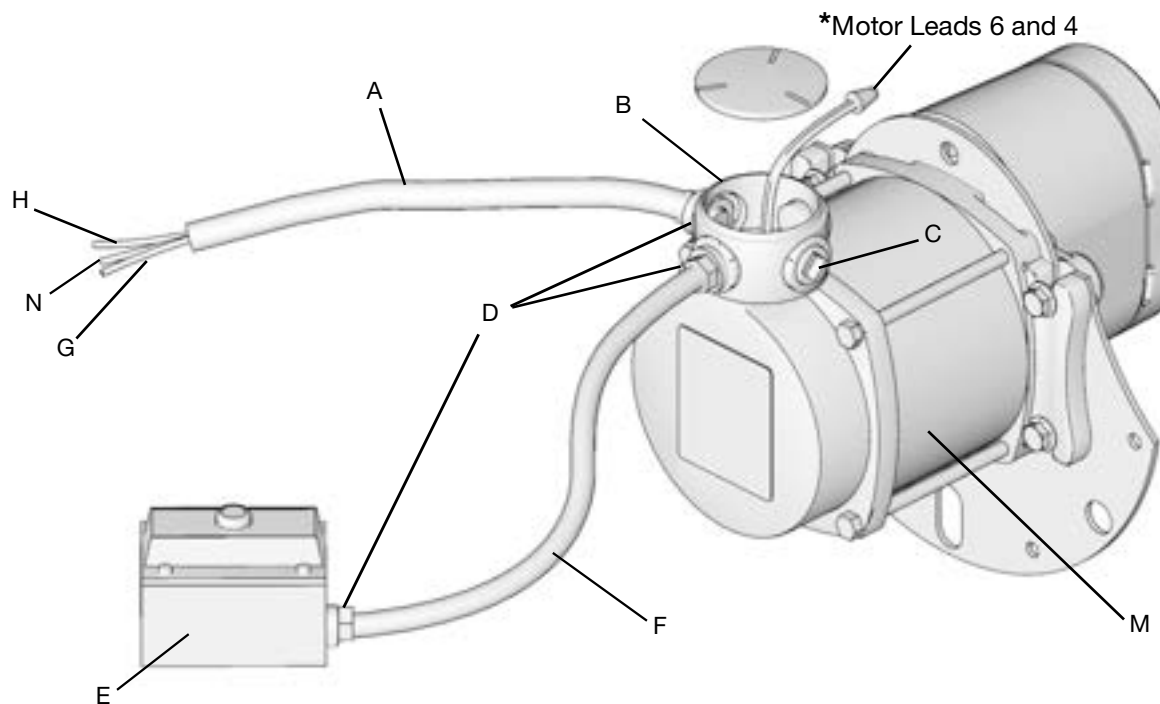
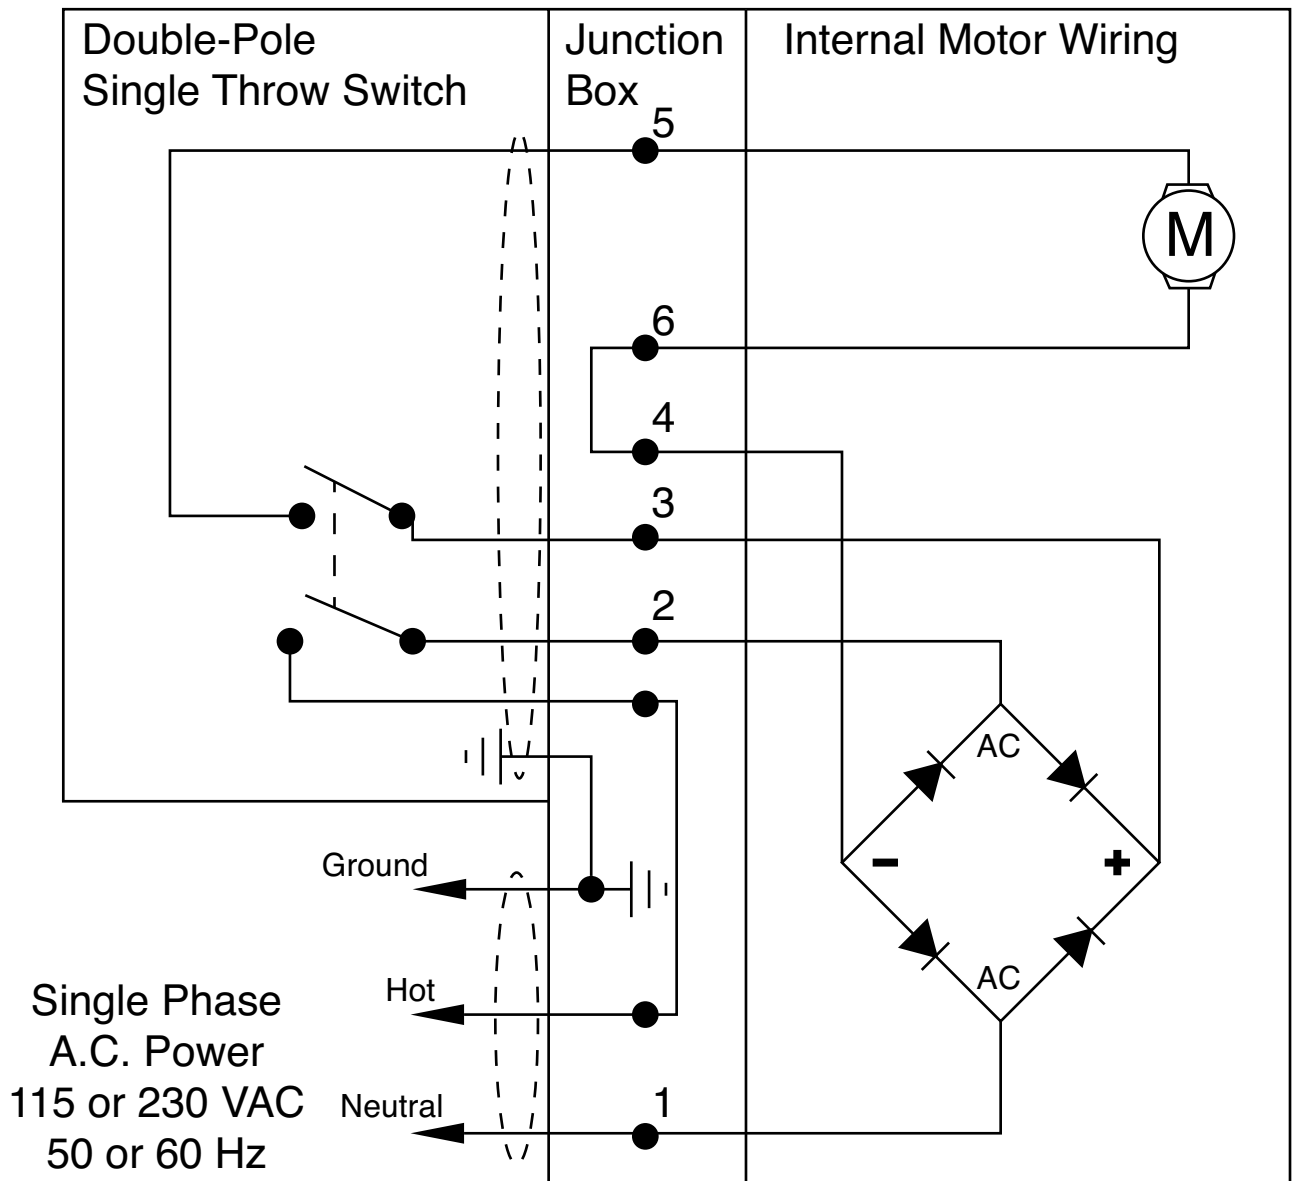

FIG. 10
FIG. 11
Follow **Wiring Diagram** (FIG. 10) and **Wiring Schematic** (FIG. 11).
- c. Apply a light coating of grease to the o-ring (18).
- d. Install outlet (17) on reel.
- e. Reinstall bolts (19). Tighten all four bolts securely. Torque bolts to 24 to 30 ft. pounds (32.54 to 40.67 N.m)
- Electric Motors - AC Models Swap leads 5 and 6 (FIG. 11, page 23).